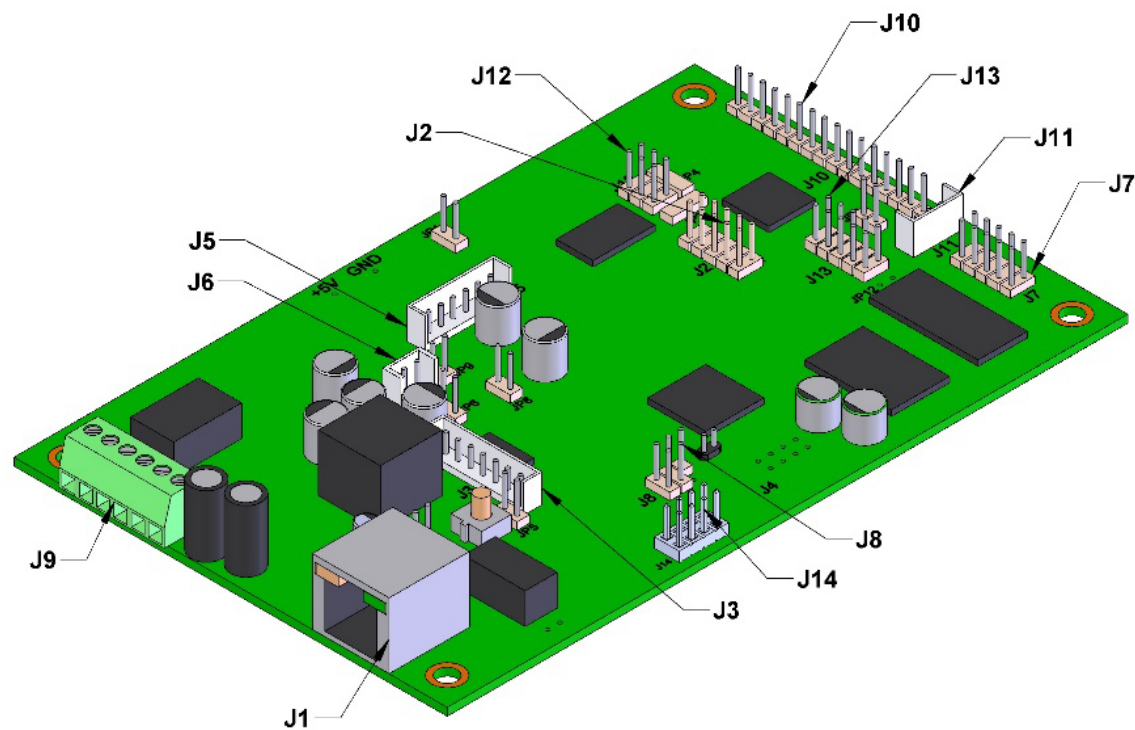

Figure 7 - Connector Locations
**See:** Section 8.5 RESET Switch and Figure 7 - Network Activity
- The square, green **Link** light above the Ethernet port indicates that the network connection has been established (see Figure 7). The Link light changes color to confirm the auto-negotiated baud rate: